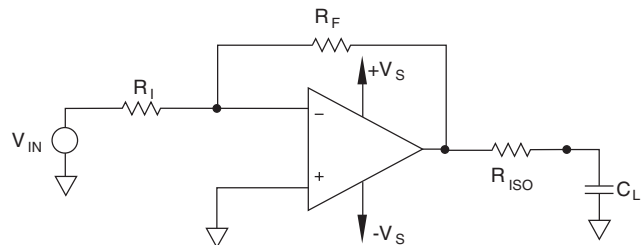

FIGURE 23. CAPACITIVE LOAD ISOLATION
- 3) Add an isolation resistor outside the feedback loop to defeat the effect of the capacitive load as shown in Figure 23. This is the simplest external component solution and has surprisingly little effect on circuit performance.